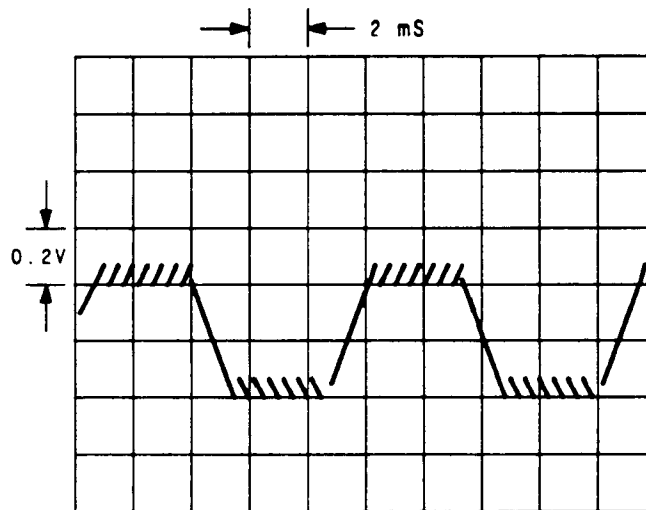

Figure 2. Oscilloscope display of TP3 (dc coupled), Signal Generator's frequency 950 MHz, modulation EXT FM 3 kHz deviation (100 Hz square wave).
4. Connect Chan 2 to TP3 (Φ M INPUT). Verify that the oscilloscope display shown in Figure 2 is correct. If the waveform is not correct continue with $\sqrt{2}$.